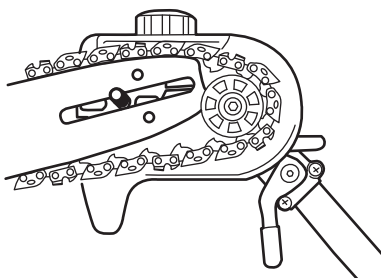

Fig. 8d
f). Align the saw chain around the drive sprocket (D10) and place one corner of the guide bar into a gap of the sprocket. (See Fig. 8d)